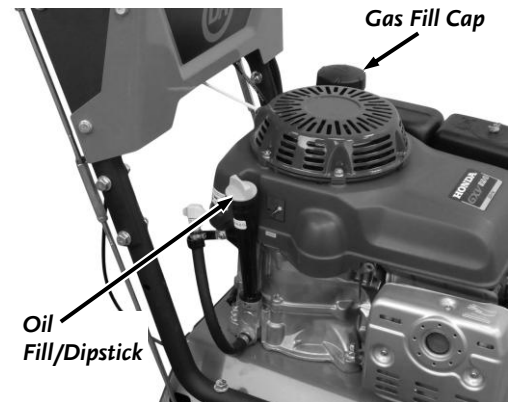
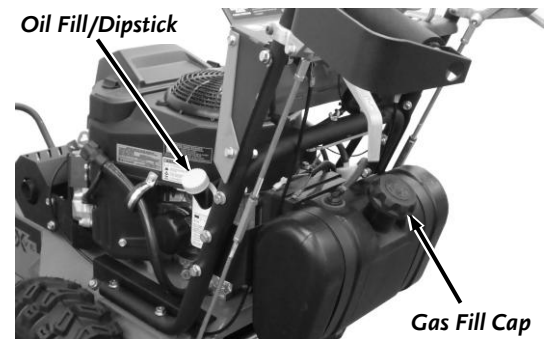

Figure 10a
Figure 10b
1. Place the machine on a level surface and initially add 1/2 of oil recommended into the Oil Fill (Figure 10a for XD26 Honda machines or Figure 10b for XD30 Kawasaki machines).
3. Remove the Gas Fill Cap and add Gas to the Fuel Tank to not more than 1/4" from the bottom of the Fill Neck with fresh, unleaded gas (Figure 10a for XD26 Honda machines or Figure 10b for XD30 Kawasaki machines).